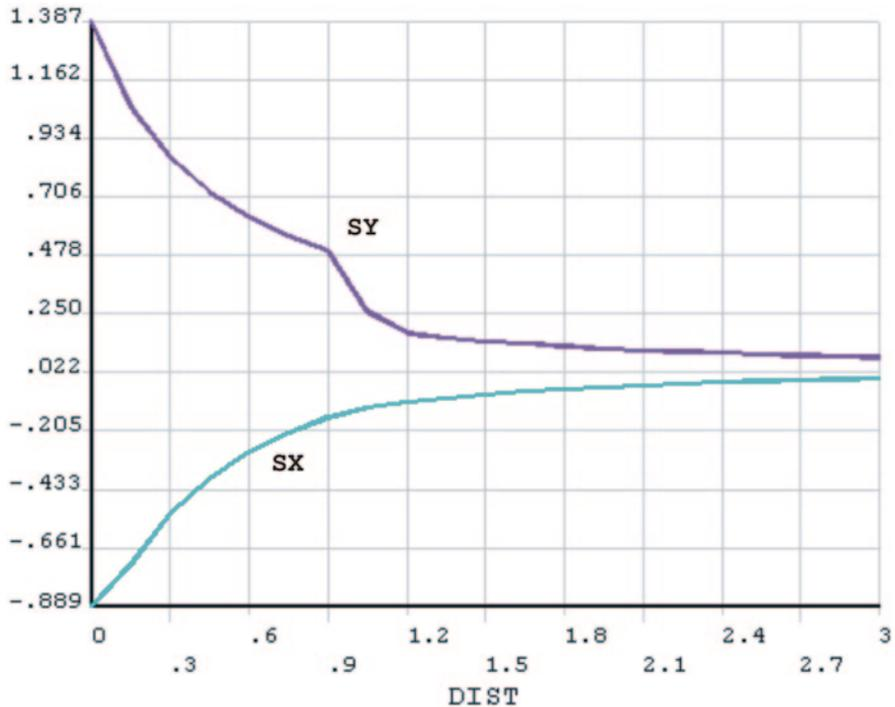

Fig. 8.23 Radial and hoop stresses along $y=0$
- Figure 8.23 shows the line plots of σ_{rr} and $\sigma_{\theta\theta}$ along the defined path.